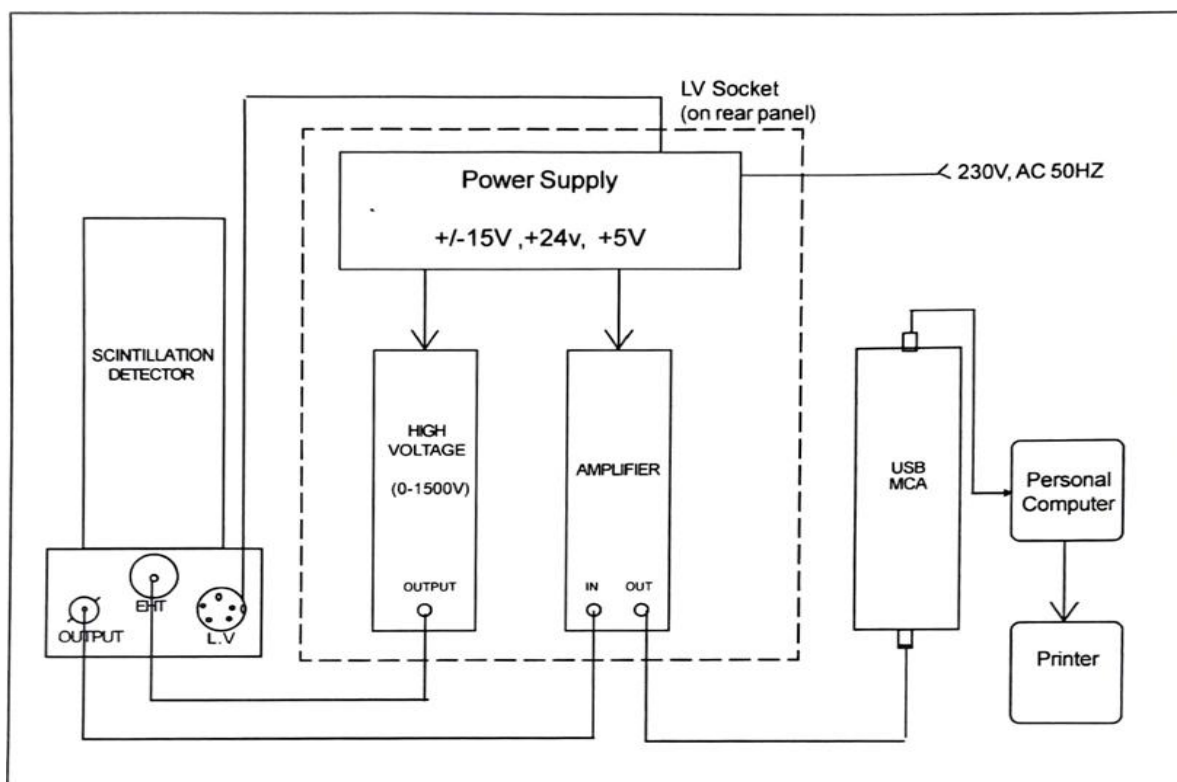

Fig.1. Block diagram USB MCA
- Make the interconnections as shown in the table given below & also in above in Fig. 1. Switch on PC & Gamma Ray Spectrometer.